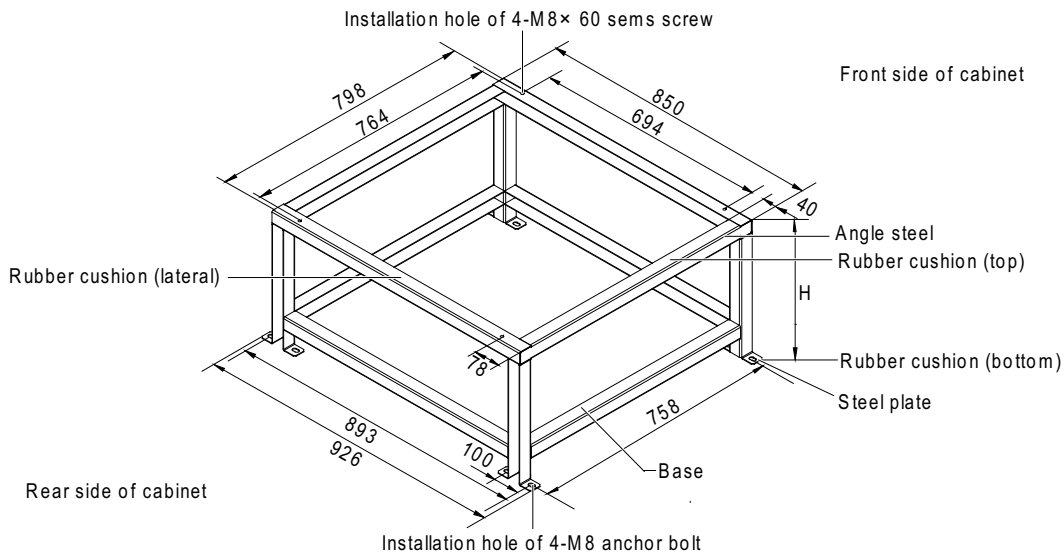
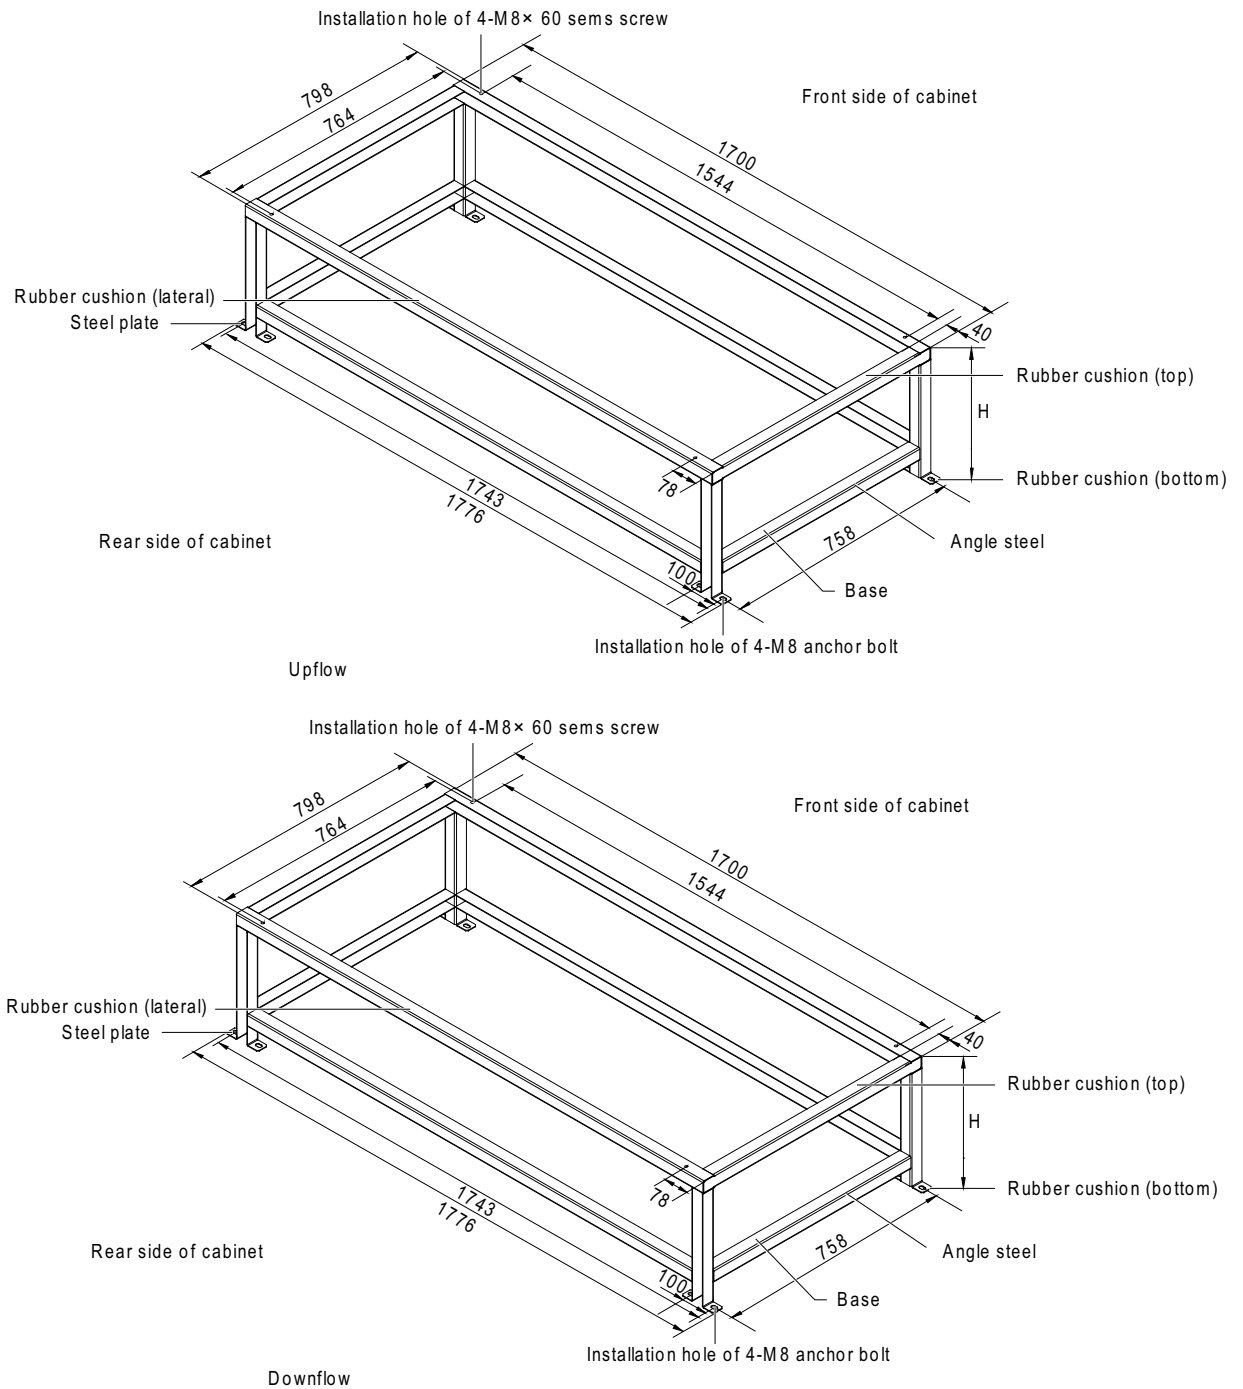
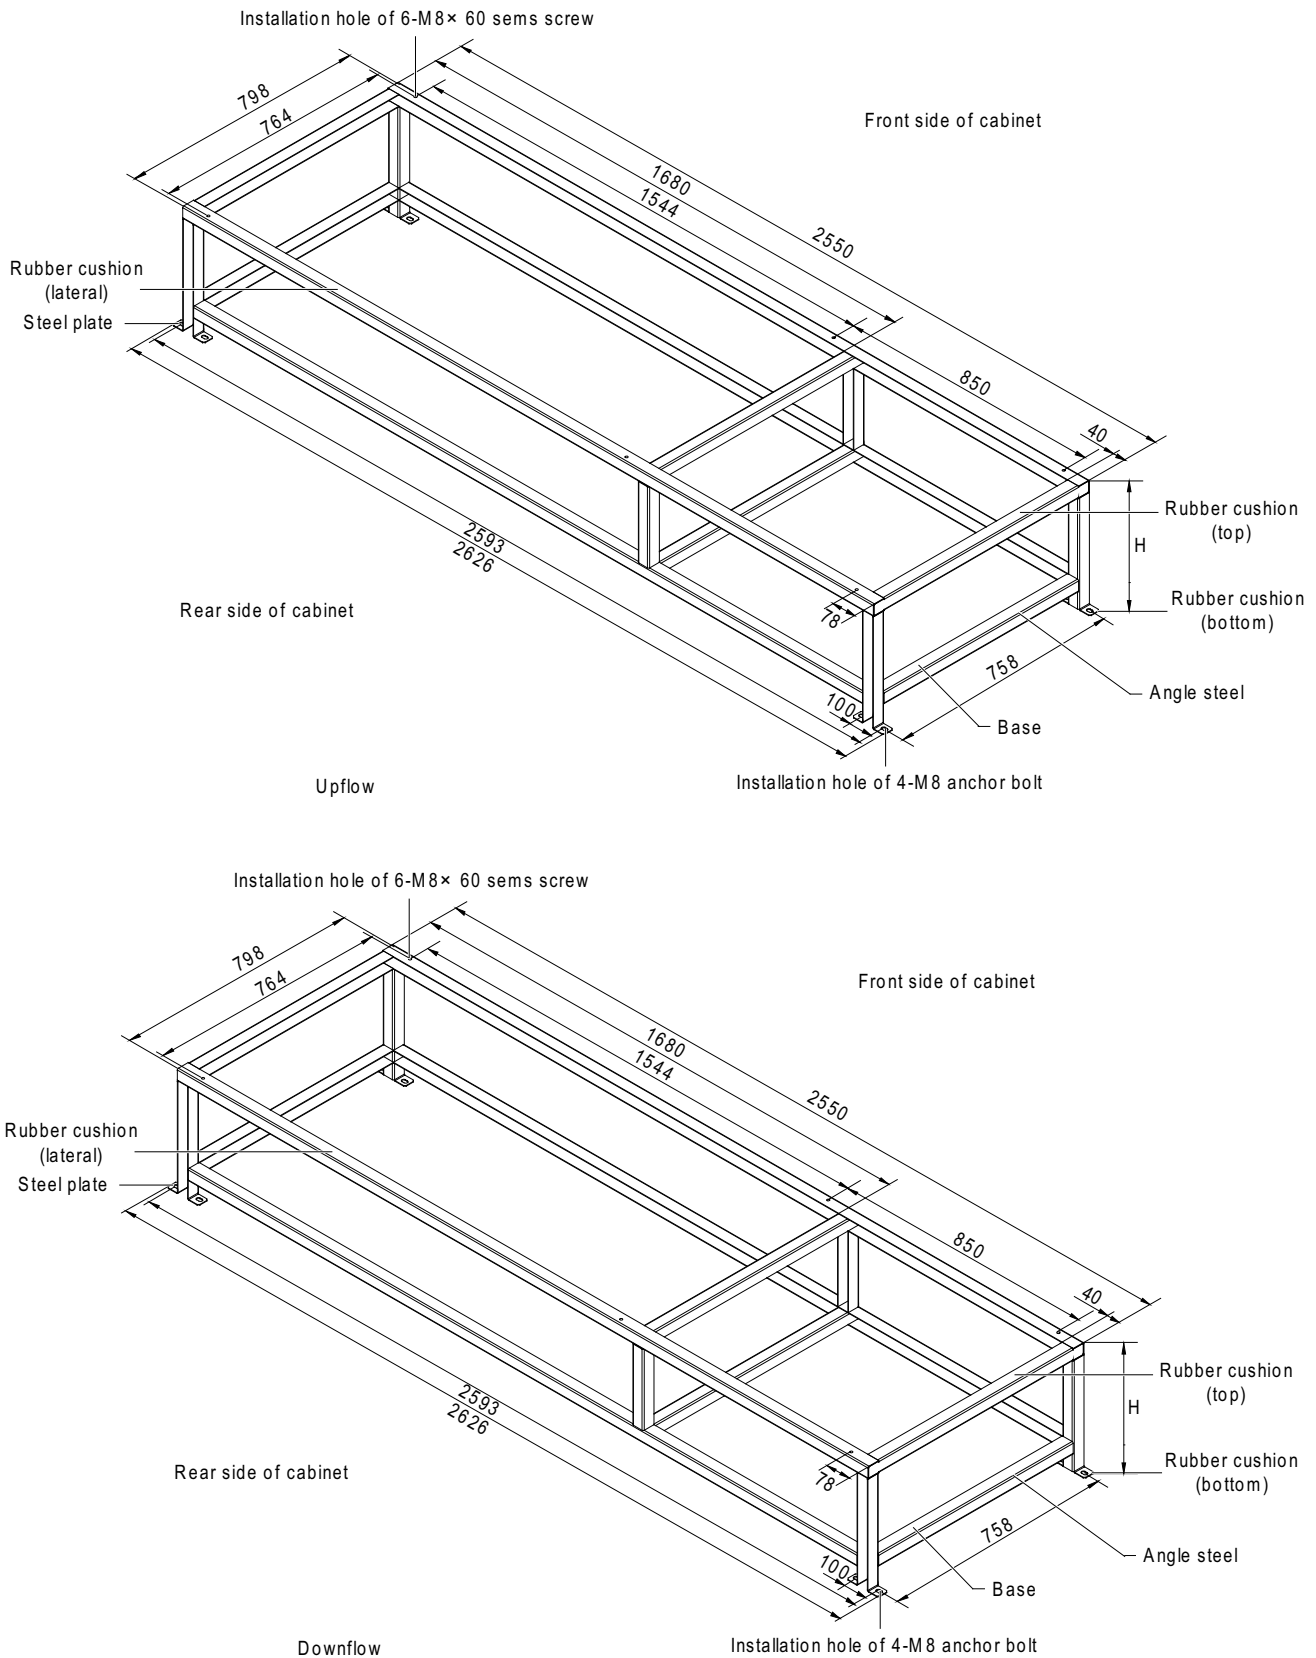

Figure 2-22 Mounting base appearance and dimensions of one-bay series (unit: mm)
Figure 2-23 Mounting base appearance and dimensions of two-bay series (unit: mm)
Figure 2-24 Mounting base appearance and dimensions of three-bay series (unit: mm)
1. Make a mounting base according to the dimensions in Figure 2-22, Figure 2-23 and Figure 2-24, and the requirements in Table 2-4. Emerson can supply a range of mounting bases to suit the required height.
2. Lay a layer of rubber cushion on the top, lateral of the mounting base and on the bottom of the steel plate respectively. See Figure 2-22, Figure 2-23 and Figure 2-24 for their positions and see Table 2-4 for the thickness.